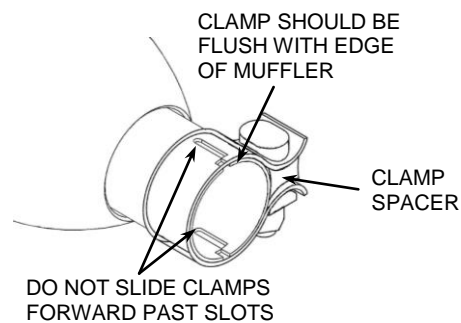

FIGURE 2
7. Check all clearances and alignments then tighten the mounting bolts to factory specifications. Tighten the muffler clamps. (NOTE: The muffler clamps should be flush with the end of the muffler when tightened. See **Figure 2**. If the muffler clamps are slid forward past the slots on the slip collar the clamps will not tighten the mufflers properly. Also, make sure the clamp spacer is not over the slots. The slots need to be covered by the clamp band so that it seals the slots properly. Rotate the clamp if necessary).